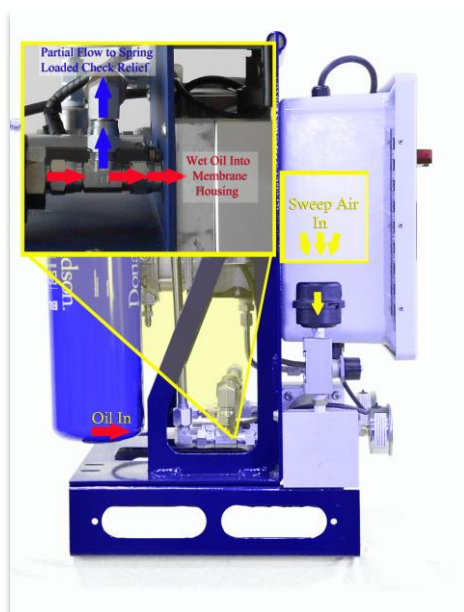

Figure 3
This total pressure may be read from the (item 4) 0-100 psig liquid filled pressure gauge installed on the front of the membrane housing. After oil enters the housing it is forced across the water removal membrane and then exits the housing. Water is removed from the oil as it passes across the membrane. If the spring loaded bypass (item 2) is open, then the flow from the membrane housing will recombine with the partial non dewatered relief flow passing through the check valve. Both combined flows exit the purifier and return to the oil reservoir. See figures 3 and 4 on the next page for further information.
A vacuum is generated by the (item 9) vacuum pump which pulls sweep air through (item's 6) the (vent filter, vacuum control valve and leak prevention check valve) and then through the center of the membrane hollow fiber. (Item 8) An air eliminator is installed between the membrane housing and vacuum pump in order to prevent any oil leakage to the vacuum side in the event that the membrane is compromised. (Item 8) and the check valve installed in (Item's 6) allow the Phoenix-M to automatically seal itself completely off in the unlikely event of a membrane break or rupture. See figures 3 and 5 below showing sweep air flow for further information.